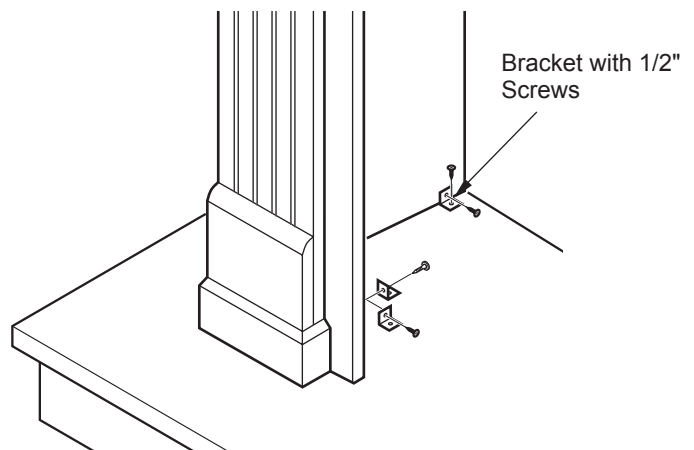

Figure 7 - Attaching Mantel Assembly to Mantel Base
3. Attach mantel to base using 6 brackets and 1/2" screws, 3 per leg assembly, into threaded holes in base and leg assembly (see Figure 7).
2. Attach mantel to base using 6 brackets and 1/2" screws, 3 per leg assembly into threaded holes in base and leg assembly (see Figure 7, page 3).